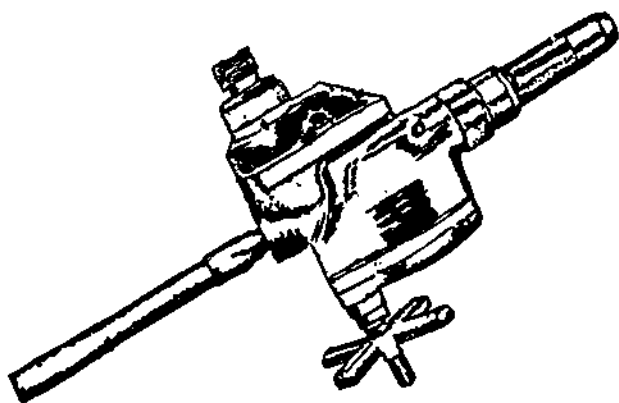

Figure 2-97. Air Motor
- 2 Air motor (for reaming operations) (Figure 2-97)